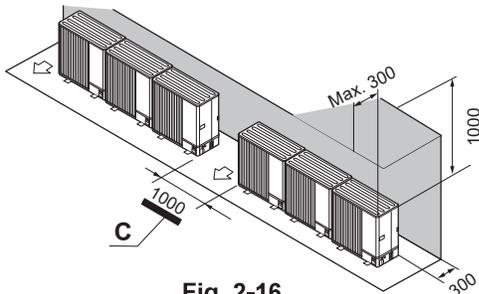

Fig. 2-16
- (2) Obstructions or closed surfaces at rear and above only (Fig. 2-16)
- C: Space (Fig. 2-16)